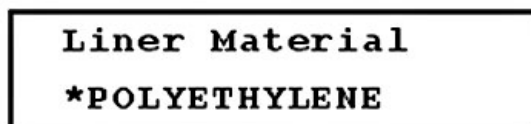

Figure 4-10. Liner Material setup menu
- a. Access the Liner Material setup menu (16). The screen shown in Figure 4-10 is shown. Select one of the available options.